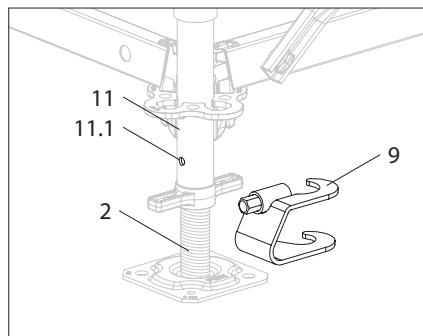

Fig. A1.11a
1. Place the Spindle Locking UJS (9) from the side onto the base spindle (2) and the base standard. Quick jack nut (2.1) must be inside the Spindle Locking UJS. (Fig. A1.11a)